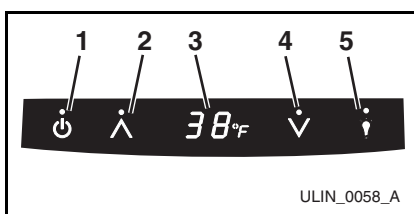

Figure 3
To turn the unit on or off, touch and hold the POWER icon (Figure 3, 1) on the display panel for approximately five seconds until the °F symbol flashes and release.
- The CLRCO2175 display (Figure 3, 3) will show the unit set-point temperature (38°F) when the unit is on and will show OFF when the unit is off. The CLR2160 display (Figure 3, 3) will show ICE when the unit is on and will show OFF when the unit is off.
The LIGHT icon (**Figure 3, 5**) on the control panel is used to control an additional Model CLRCO2175 lighting function. The blackout/Sabbath mode (not Star K certified) will turn the interior light and display (**Figure 3, 3**) off.
1. Touch and hold the LIGHT icon (**Figure 3, 5**) for ten seconds and release (the °F symbol will flash briefly at the end of the five second period).
2. The interior light and control display (**Figure 3, 3**) will go dark for 36 hours.